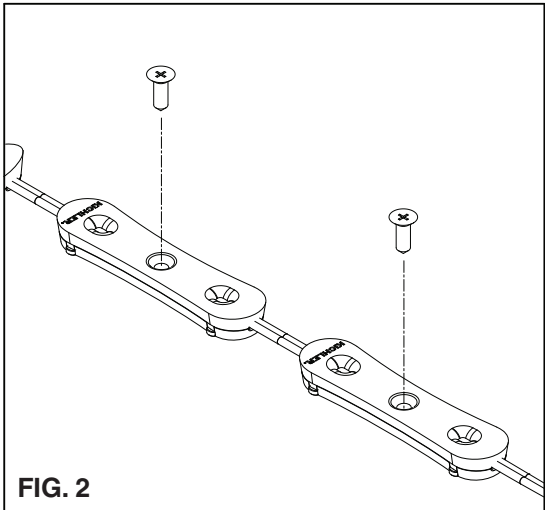

FIG. 2
- D. Drive screws into mounting surface until fixture is secure. (See Figure 2)